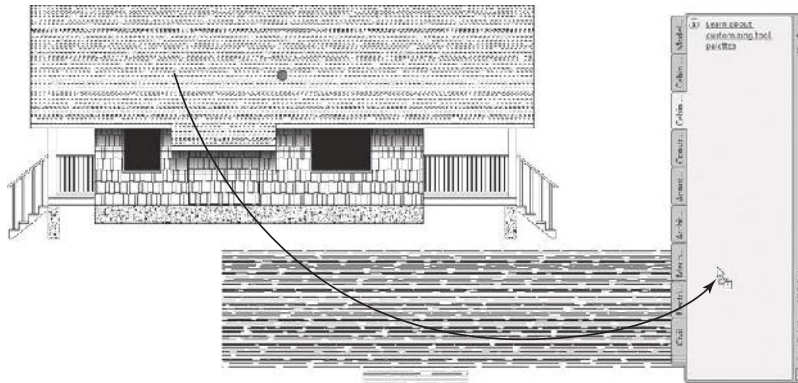

FIGURE 11.31: Copying the roof hatch to the new palette
4. Move the cursor to a portion of the roof hatch that isn't close to the grip, and then click and drag the hatch pattern over to the new palette (see Figure 11.31).